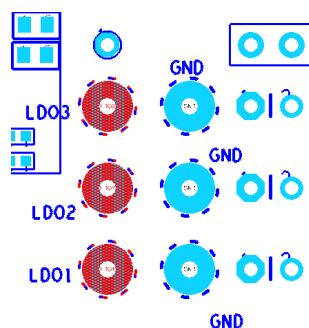

Figure 9. LDO Regulator Load Connection Points
3. Connect loads to the LDO regulator outputs at the pins shown in Figure 9.